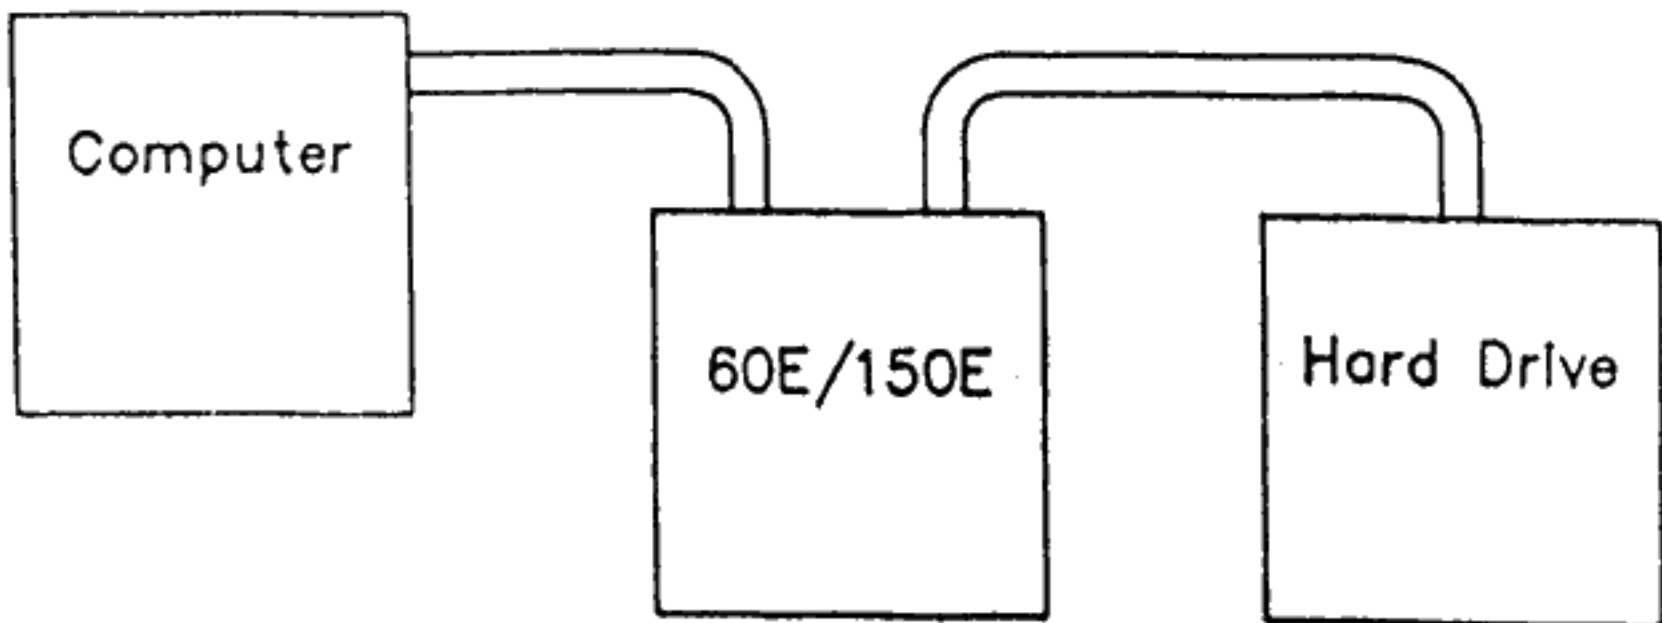

Fig. 2 - 60E, 150E Connections (w/external drive)
- 5) Attach the other end of the cable to the connector marked "Host Adaptor" on the back of the tape drive's chassis. See Fig. 2. Again, secure the cable with the attached screws.